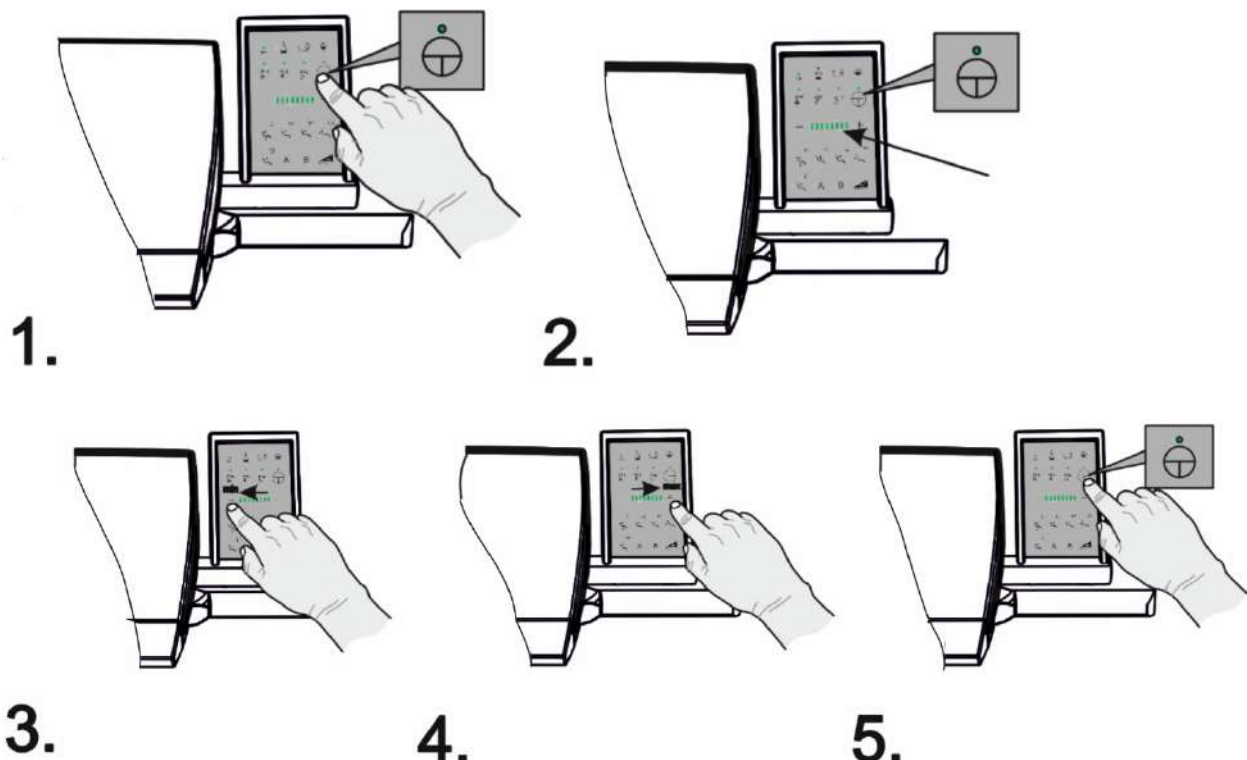

Figure 5.3.3.1 Adjusting the torque of the micromotor in ENDO mode
1. Press the button to switch on ENDO mode, while the indicator flashes, which means that this mode has been set (see Figure 5.3.3.1).